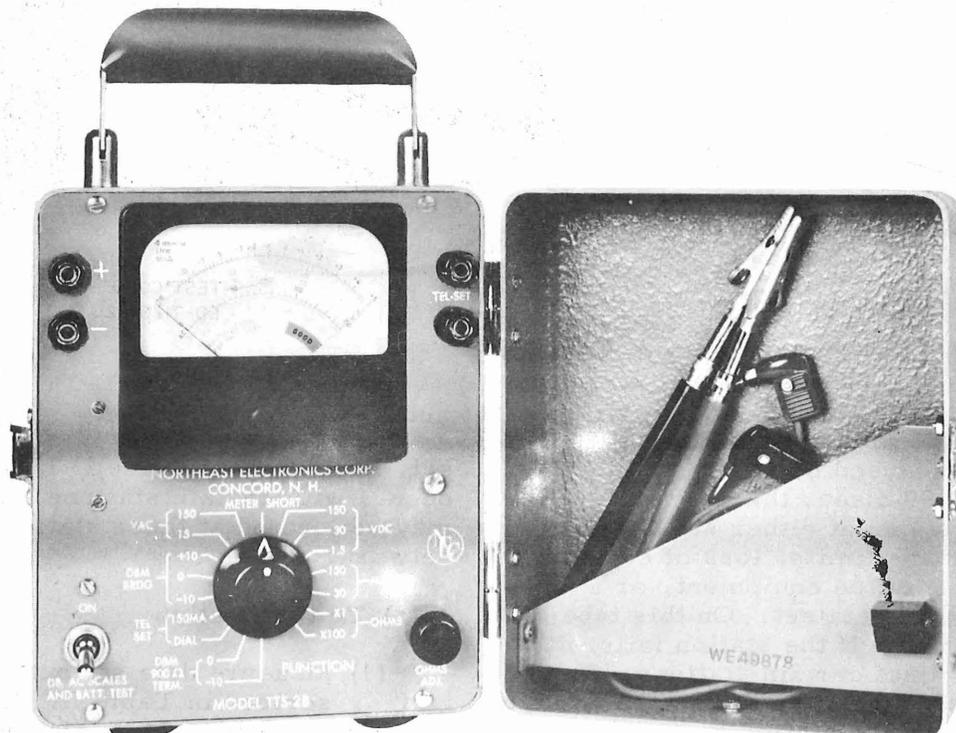

Fig. 3 - TTS-28 Meter, Front View
a. Loop loss with test set TTS-28 as outlined in 8.03. See Fig. 3.